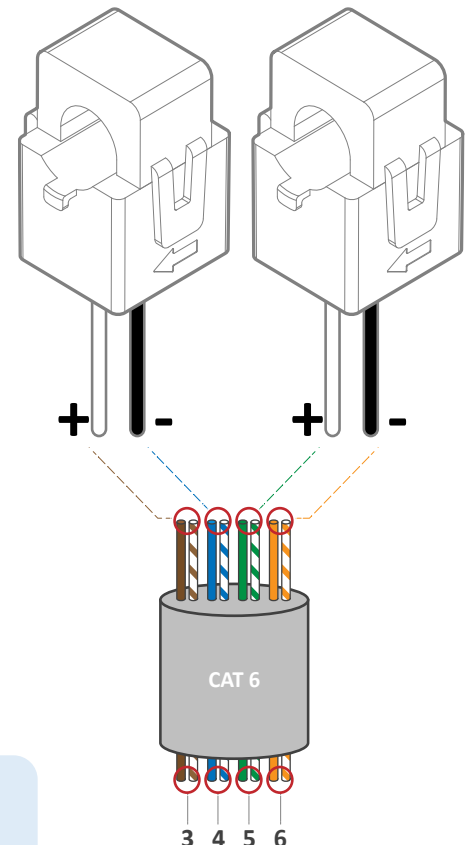

Figure 18: CT wire extensions with shielded CAT 6 cable
- If the wires need to be extended, use CAT 6 (shielded) cable to make an extension (see Figure 18).